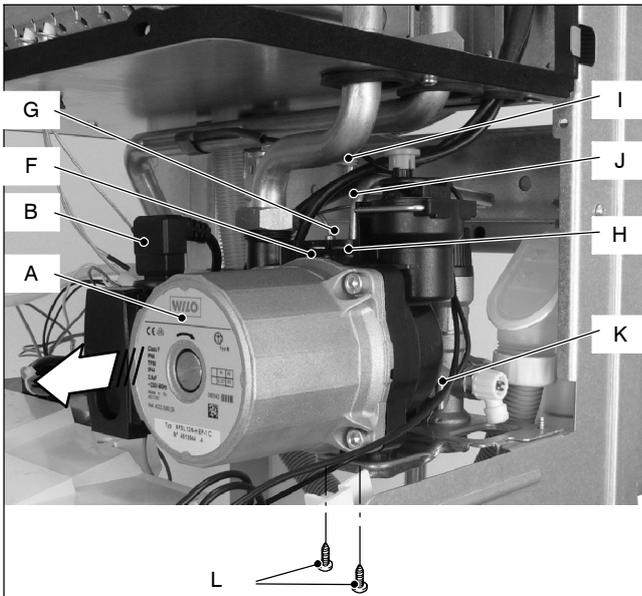

Fig. 3
- 7 Disconnect the connector B (Fig. 3).
- 8 Remove the fork *F* and remove pressure gauge connection *G* (Fig. 3)
- 9 Remove the fork *H*, loosen the connection *I* and remove the pipe *J* (Fig. 3)
- 10 Remove the locking plate *K* (Fig. 3).